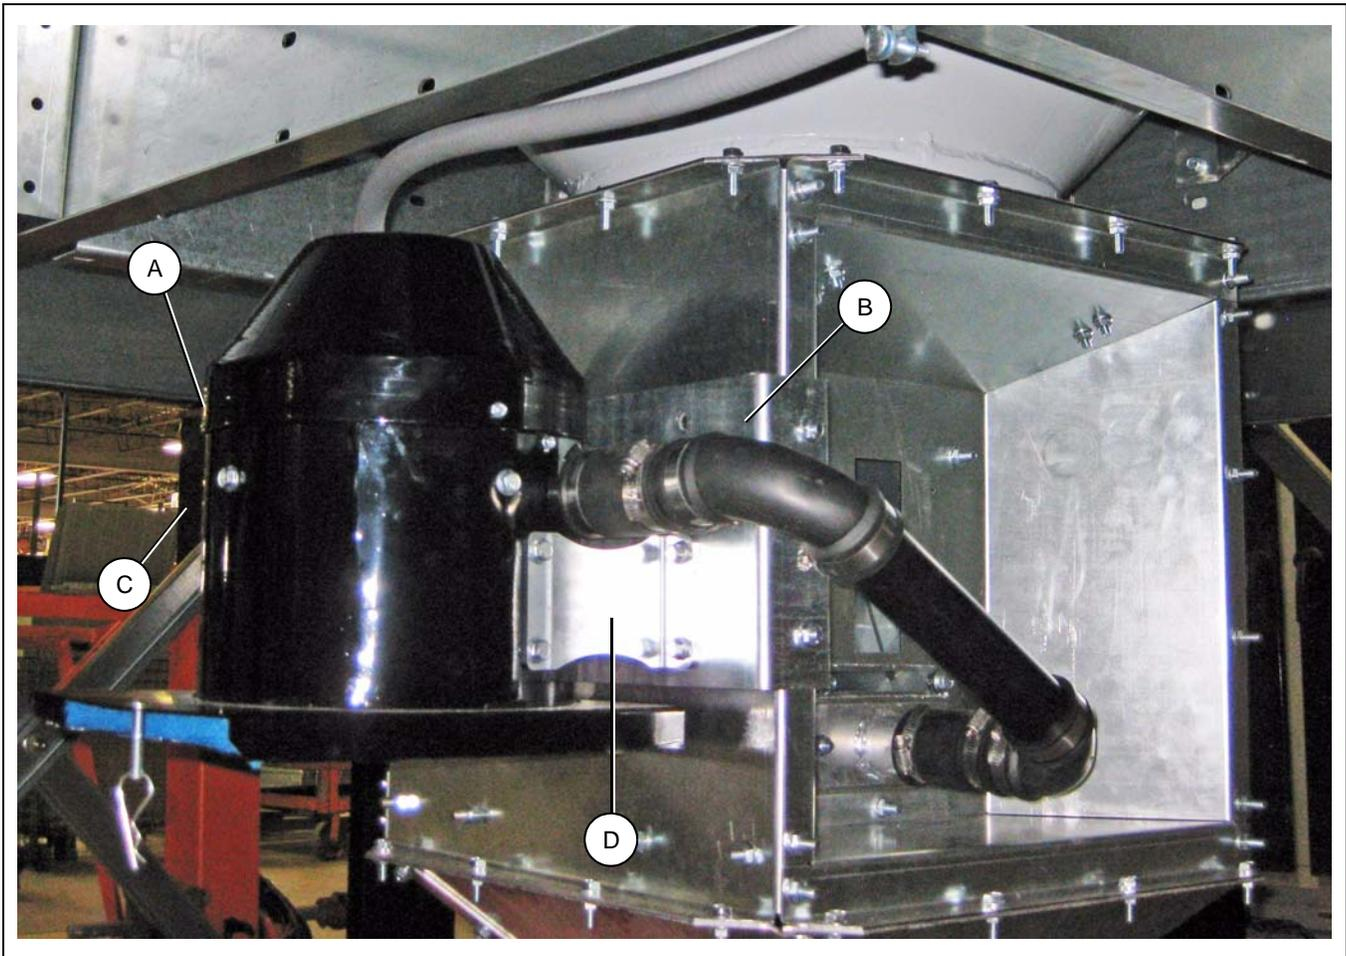

Figure 2D
3. Install the blower cover weldment (D04-1017-BK) to the blower mounting brackets (C and D) using 5/16" nuts. (See Figure 2D.)